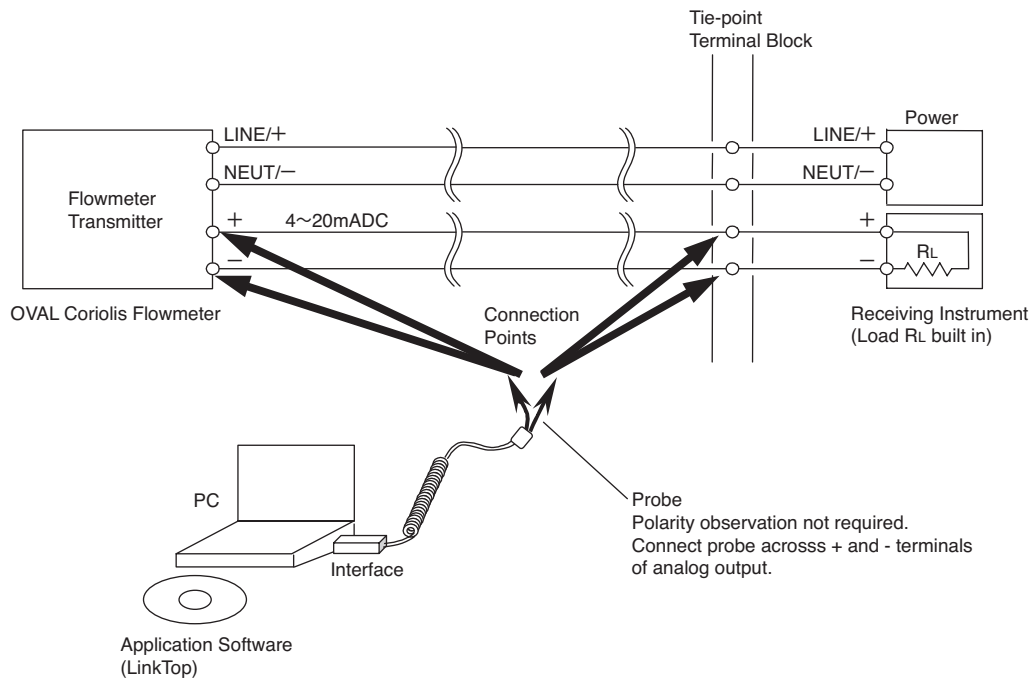

Fig.2
Equipment set-up with associated equipment and devices are shown in Fig. 2.
➡ NOTE: In Fig. 2, the customer is to supply the PC that meets the following requirements:
- ① Hook up the flowmeter transmitter, PC interface adapter, and "LinkTop" preinstalled PC as shown in Fig. 2.
- ② To get the LinkTop up and running, click from "Start" at lower left of the PC screen and click "LinkTop for Coriolis 3 (J)" from "Program".
- ③ Click "Port setting (I) Ctrl + I" in "File (F)" at the top-level menu of screen.